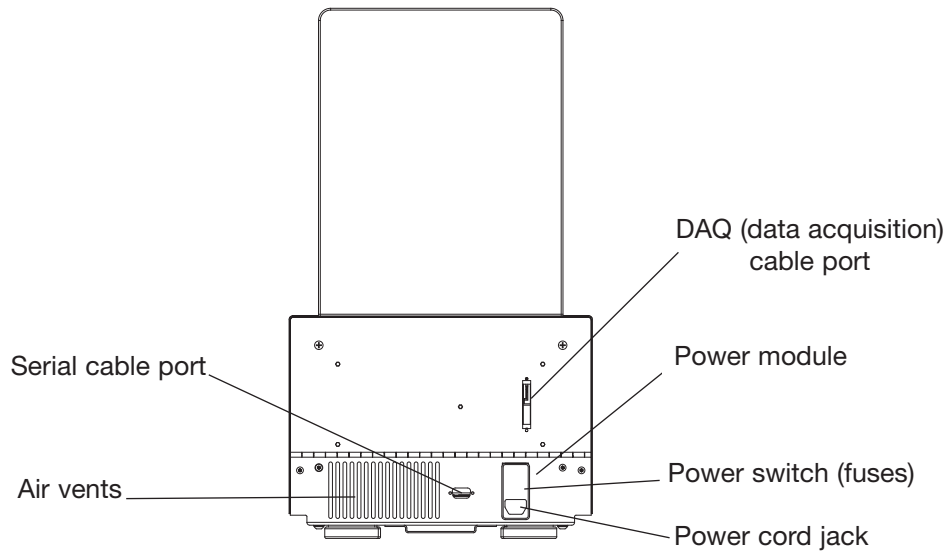

Figure 2-2. Back view of instrument
- One serial cable for connecting the Opticon 2 unit's serial port (Figure 2-2) to the computer serial port
- One data acquisition cable for connecting the Opticon 2 unit's DAQ port (Figure 2-2) to the data acquisition card in the computer
The Opticon 2 system requires only minimal assembly. Insert the power cord plug into its jack at the back of the instrument, just below the power switch (see Figure 2-2 for the location of the jack), then plug the power cord into a standard 110 V or 220 V electrical outlet. Both the Opticon 2 unit and the monitor will accept 220 V automatically, but you must set the voltage on the computer. See “Power Supply Requirements”, section 3.2.2 for more information.
Before powering up the computer, be sure that the Opticon 2 unit is connected to the computer. There are two cables that connect the Opticon 2 unit to the computer. Connect the serial cable to the serial cable port on the Opticon 2 unit (see Figure 2-2) and serial port #2 on the computer. Connect the data acquisition cable to the DAQ port on the Opticon 2 unit (see Figure 2-2) and the data port on the computer.